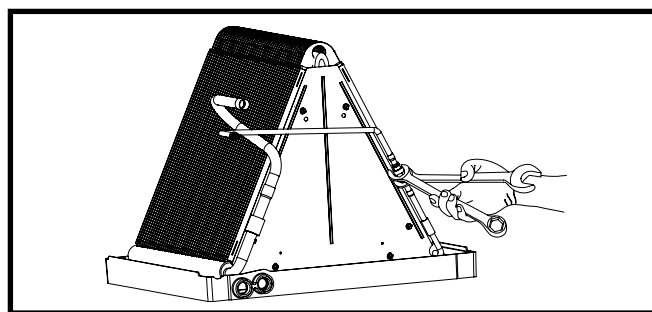

Figure 2. Loosening of Nut & Distributor Body
4. Align the retaining nut on the TXV body and hand tighten both components. Mark a line on both bodies and then tighten an additional $\frac{1}{4}$ turn using two wrenches. See Figure 2 \(page 5\). **NOTE:** The movement of the two lines will show how much the nut is tightened. If a torque wrench is used, tighten to 10-12 ft lbs or 14-16 Nm.
1. Using two wrenches, loosen the nut and distributor body as shown in Figure 2. Turn the assembly nut counter-clockwise until the orifice body halves are separated.